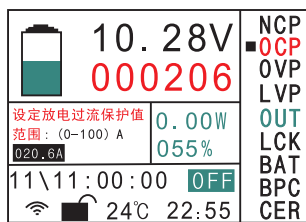

Figure 4-2
2). "**OCP**" Discharge over current protection value, if the value is greater than 0 will start the protection, if equal to 0 will not start the protection function. When setting the parameters, press the $\uparrow\downarrow$ key to move the cursor to **OCP**, and then click the **OK** key to enter into the parameter setting interface of Figure 4-2, setting the parameters in the same way as NCP.